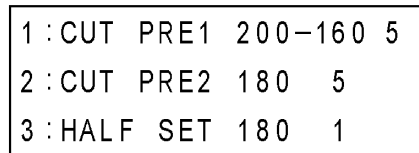

Fig. 15
- (1) Press the “RET” key. The display shifts to one as shown in Fig.15.
- (5) Press the “2” key. The display shifts to the Print Mode 2 that enables to set and print the sample print to examine the cutter blade length.
- (6) Use the numeric keys to enter the central step number for cutting and the step numbers forward and backward by the specified step interval from the central step number for cutting examination.
- (7) Press the “RET” key to fix the above entries. The machine starts the sample printing. Three lines of half cut operation are executed forward and backward according to the specified step length as shown in Fig.17. After printing, the display returns as shown in Fig 15 that enables to select the initial items.
- (8) Press the “3” key. The display shifts to the Half Cut Blade Length Adjustment Mode.
- (9) Use the numeric keys to enter the central step number and the step length.
- (10) Press the “RET” key to write the above entries into the EEPROM. The machine execute three lines of half cut operation forward and backward around the central step number according to the specified step length as shown in Fig.18. After printing, the display returns as shown in Fig 15 that enables to select the initial items.
- (11) Press the “RET” key while the LCD displays as shown in Fig.15. The display shifts to the Key Check Mode as shown in Fig.19.